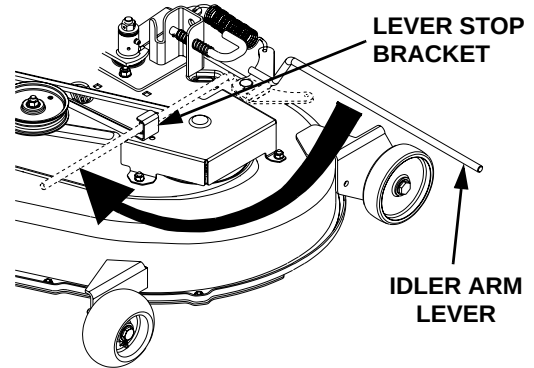

Figure 6-28
15. While holding the belt in position, rotate and engage the deck idler arm lever into its stop bracket to tension the PTO belt (See Figure 6-28).